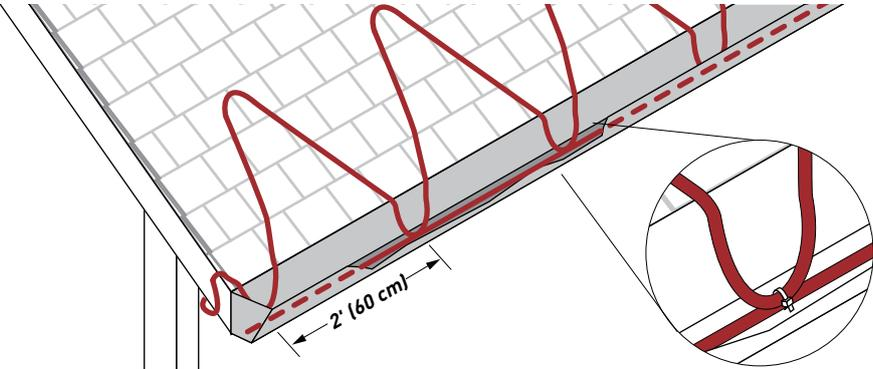

Fig. 7 Layout in a zig-zag pattern
For sloped roofs, ice dams may form at the roof edge. To maintain a continuous path for melt water runoff, route the heating cable in a zig-zag pattern as shown in Fig. 7 and follow the appropriate attachment recommendations in “Step 6 Select attachment accessories and method” on page 21. Additional heating cable may be needed for other gutters, downspouts, and valleys.
- Install the heating cable on the roof in a zig-zag pattern as shown in Fig. 7.
Note: Attachment methods are not shown in Fig. 7. For attachment methods, proceed to “Step 6 Select attachment accessories and method” on page 21.